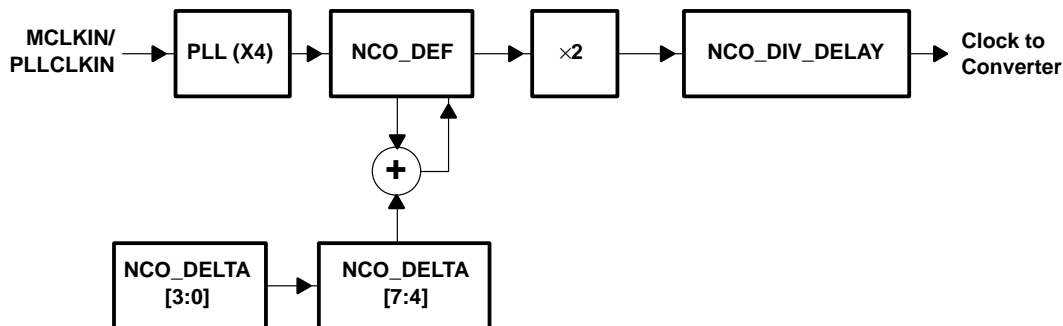

Figure 15. DPLL Internal Functional Block Diagram
As an alternative to the VCXODAC and VCXO, an off-chip crystal oscillator (XO) followed by an on-chip digital PLL is also implemented. See Figure 15 for the internal functional block diagram. The input clock (35.328 MHz) goes to a programmable frequency-divider to generate the sampling clock for the ADC and DAC. By changing the divide ratio, the phase of sampling clock for ADC and DAC channels can be adjusted. therefore, setting the PLLSEL (pin 26) high to enable the DPLL mode.